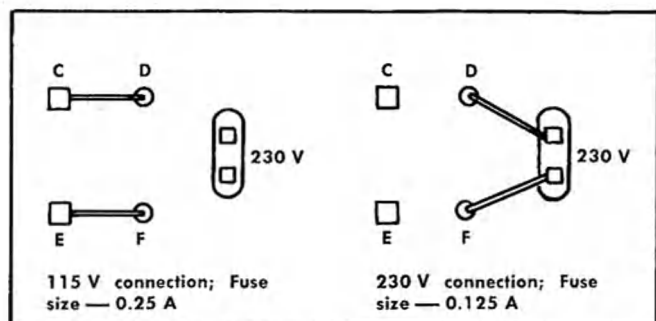

Fig. 4-10. Connections for 115 V and 230 V AC operation. Place insulated sleeves on unused square pins after changing the connections.
**Transformer.** To remove the transformer, unsolder its eight leads from the circuit board. Remove the Power Pack cover plate from the opposite side by removing the six screws from it. Then remove the two transformer mounting bolts; the transformer can then be lifted out through the hole in the side plate. See Fig. 4-10 for 115-230 V wiring information.
**Fuse.** Access to the fuse can be obtained by pulling the plastic cap off toward the bottom. When replacing it, be sure that the grooves in the cap align with the fuse mounting board. See Fig. 4-10 for 115-230 V fusing information.